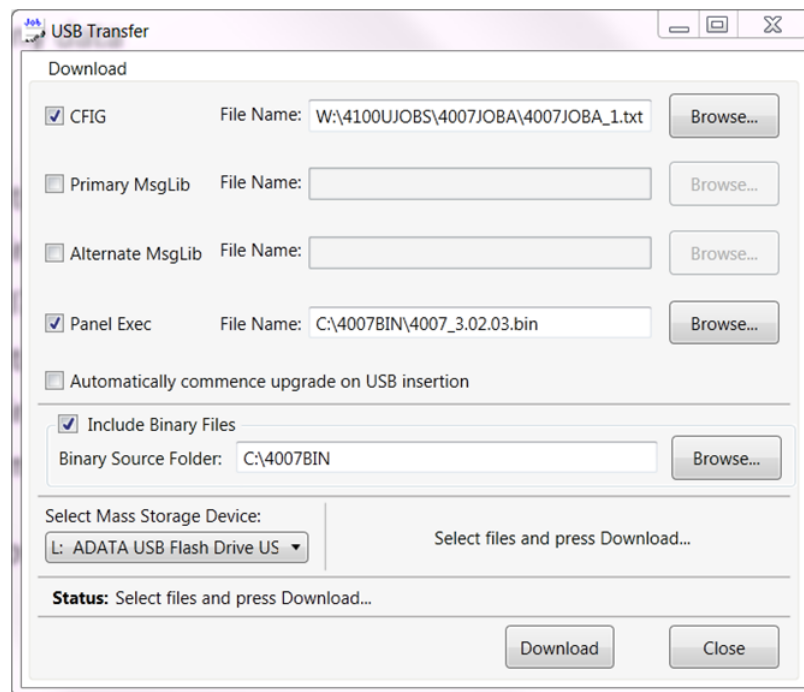

Figure 10-1. USB Transfer Window
6. In the **USB Transfer** window (Figure 10-1), click **CONFIG**, **Panel Exec** and **Include Binary Files** checkboxes and make sure the files are attached.